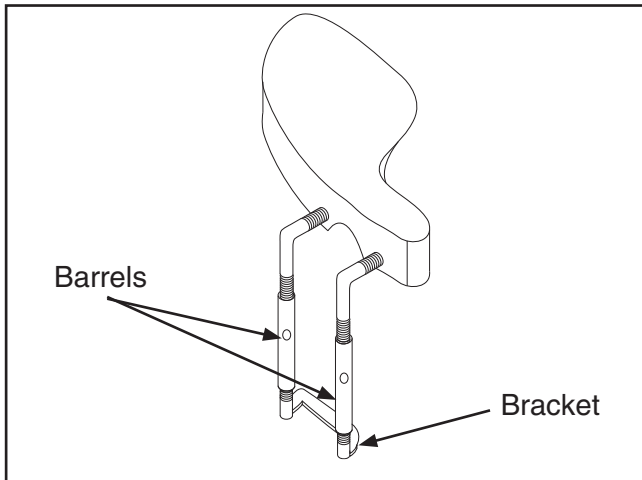

Figure 15. Bracket attached to screws and chin rest.
2. Thread the two barrels attached to the bracket onto the screws mounted to the chin rest as shown in **Figure 15**.